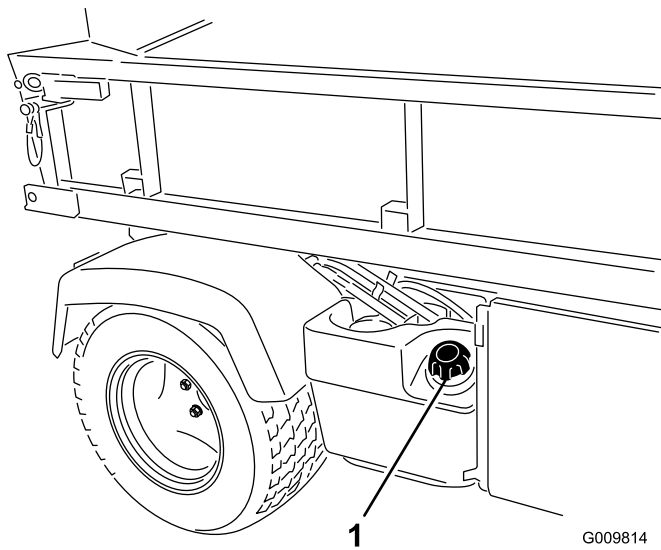

Figure 14
2. Remove the fuel tank cap (Figure 14, shown with shield removed).